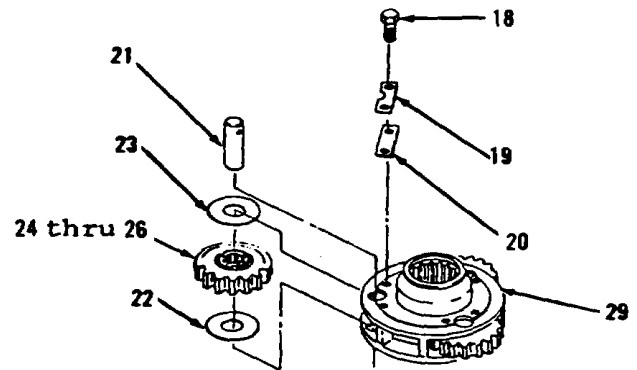
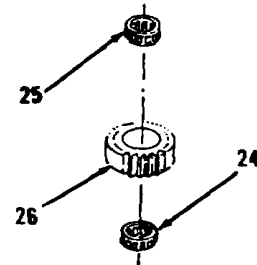

Figure 5-134.
Figure 5-135.
13. Using pry bars, carefully remove items 18 thru 29 as an assembly turning over and placing on flat surface.
14. Remove six bolts (18), three locks (19), retainers (20) and shafts (21) from planet carrier (29, Figure 5-134).
15. Remove three washers (22 and 23) and items 24 thru 26 as an assembly.
16. Remove three rollers (24 and 25) from gears (26, Figure 5-135).